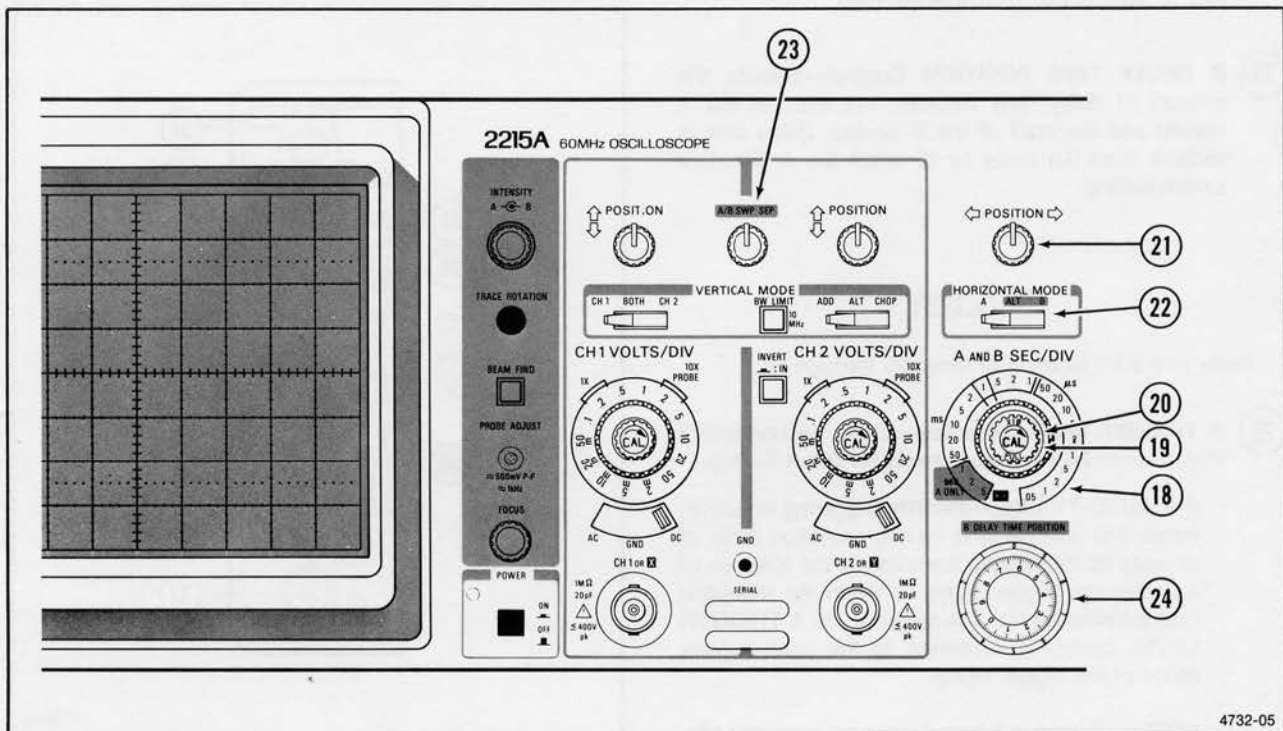

Figure 2-5. Horizontal controls.
Refer to Figure 2-5 for location of items 18 through 24.